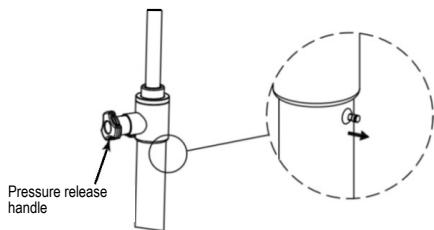

Fig. 5
- Crane lowering: rotate the pressure release handle anticlockwise (Fig. 5); release the handle; the pressure exhaust valve will close automatically.